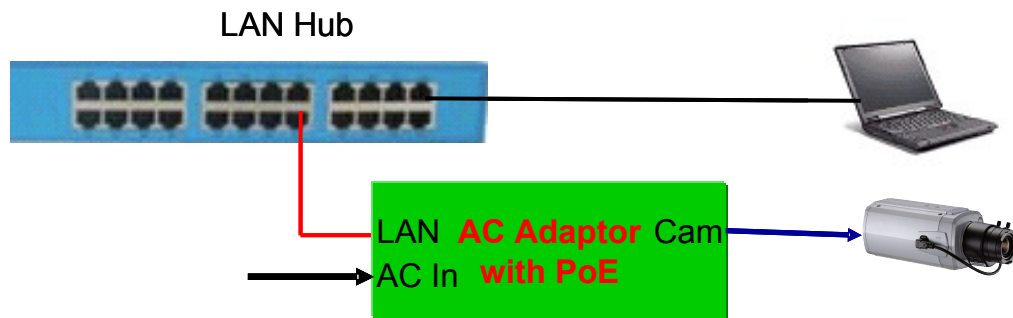

Figure 2-5. Connecting Video server and PC using PoE Adaptor
- 2) If you have power adaptor with PoE, connect the video server and PC as illustrated in Figure 2.5. Both power and network connection is made with a single LAN cable.